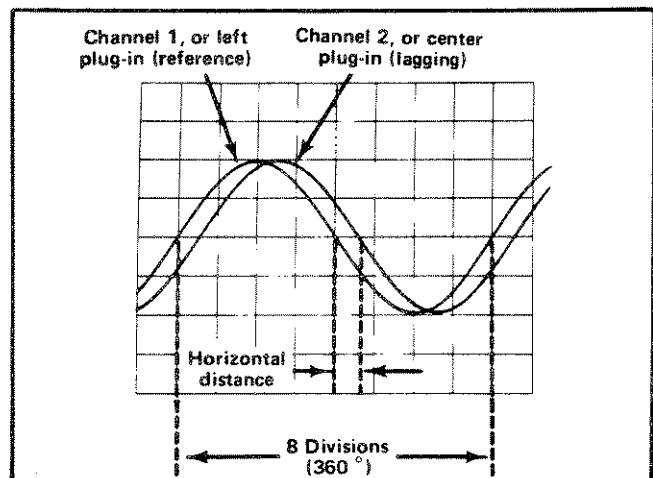
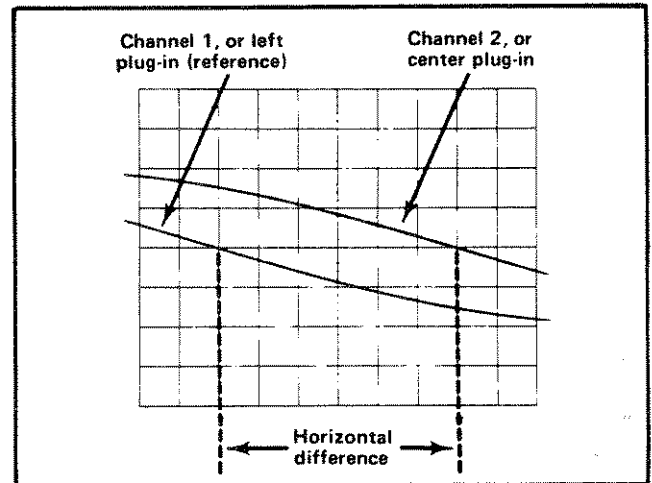

Fig. 1-11. Measuring phase difference.
Fig. 1-12. High-resolution phase difference measurement with increased sweep rate.
9. Turn the variable Sec/Div control until one cycle of the reference signal (Channel 1, or left plug-in) occupies exactly eight divisions between the second and tenth vertical lines of the graticule (see Fig. 1-11). Each division of the graticule represents  $45^\circ$  of the cycle ( $360^\circ \div 8 \text{ divisions} = 45^\circ/\text{division}$ ). The sweep rate can be stated in terms of degrees as  $45^\circ/\text{division}$ .
EXAMPLE: Assume a horizontal difference of 0.6 division with a sweep rate of 45°/division as shown in Fig. 1-11. Use the formula:
EXAMPLE: If the sweep rate were increased 10 times with the magnifier, the magnifier sweep rate should be 45°/division ÷ 10 = 4.5°/division. Fig. 1-12 shows the same signals as used in Fig. 1-11, but with the Swp Mag button pushed in. With a horizontal difference of six divisions the phase difference is: